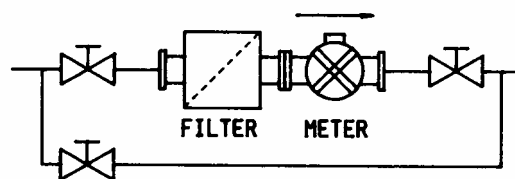

*Fig. 3, Supporting the flowmeter*
1. Install suitable pipe brackets at each side of flowmeter (Fig. 3).